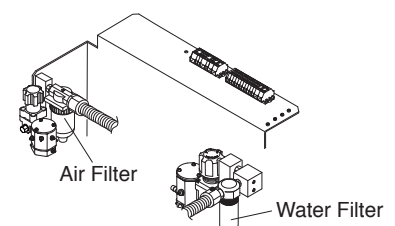

Fig.5-7 Filter
(7) Filter Replacement (Fig.5-7)